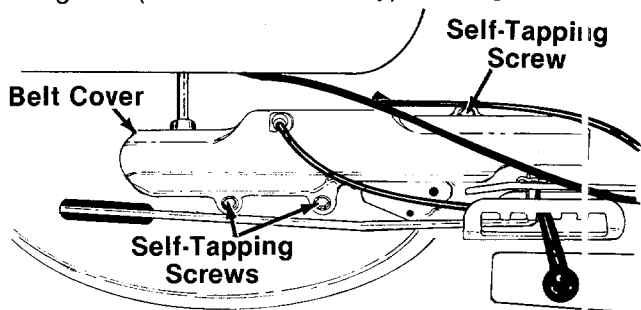

FIGURE 29.
3. Remove the three screws which hold the belt guard (and idler assembly). See figure 29.